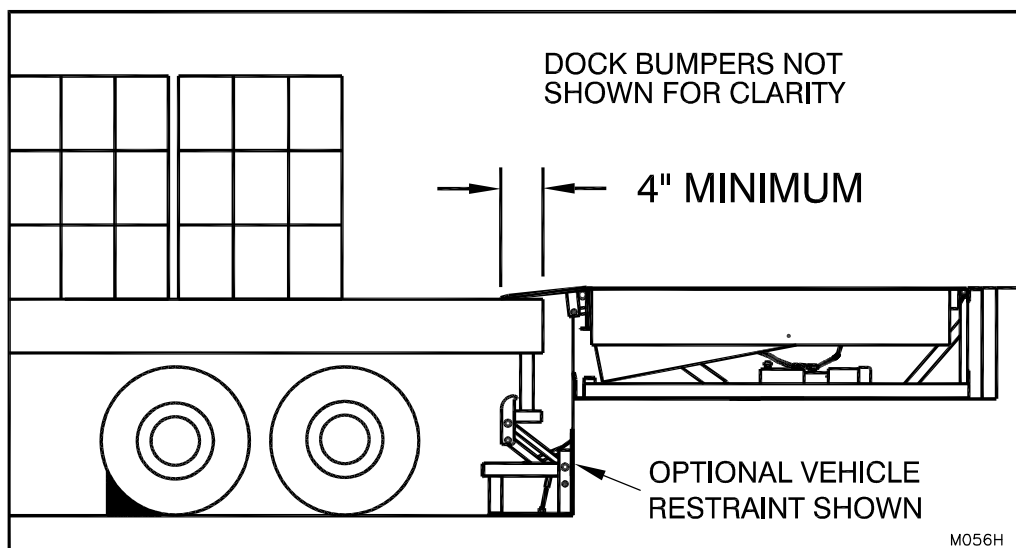

Figure 56: Minimum 4” Penetration
NOTE: Always be certain that the truck/trailer is parked tight against the face of both dock bumpers and the truck wheels are chocked and/or that the truck is locked in place by a vehicle restraint (See “Figure 56: Minimum 4” Penetration” on page 47) before loading or unloading. All ‘air ride’ trailers must release the air from the suspension mechanism prior to activating the dock leveler for use.
3. Release the **RAISE** button to allow the deck to lower until firm contact is made with the truck bed. **Note:** The lip must extend a minimum of 4” onto the truck bed. (See “Figure 56: Minimum 4” Penetration” on page 47)